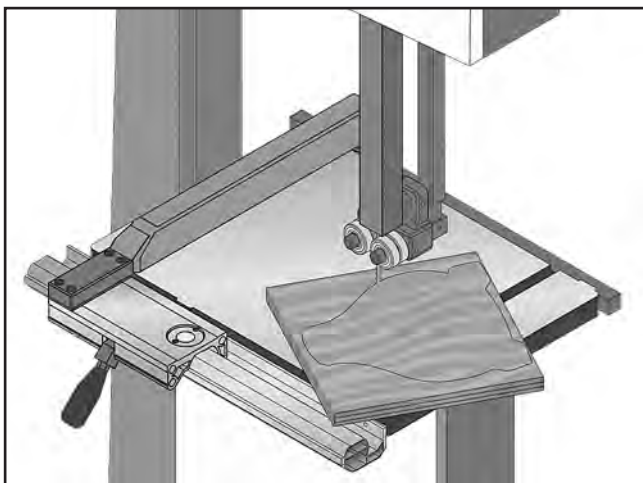

Figure 45. Typical stacked cut.
5. Cut stack of pieces as though cutting a single piece. Follow layout line with blade kerf on waste side of line, as shown in **Figure 45**.